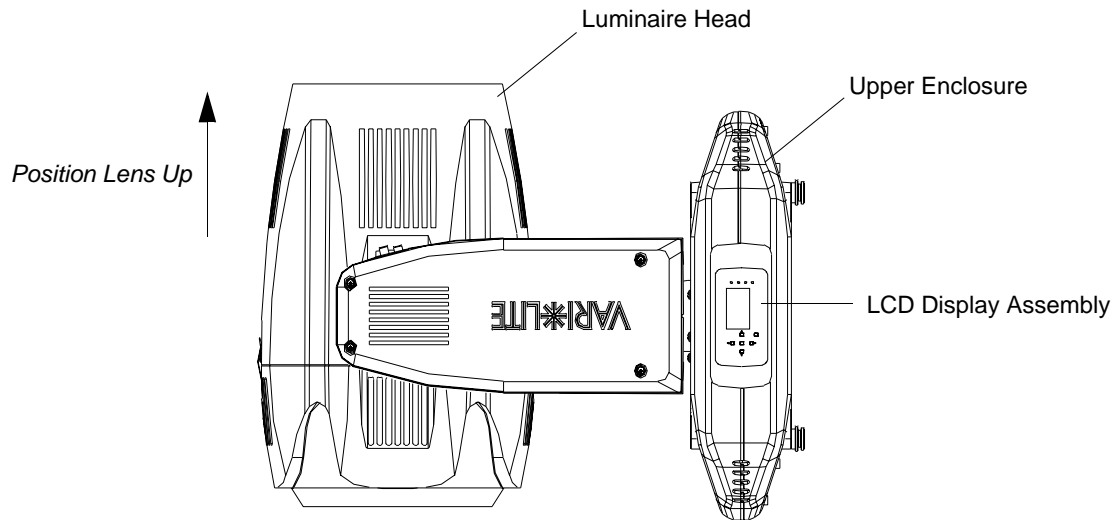

Figure 2-49: VLX Wash Luminaire
- Step 2. Carefully lay luminaire on flat, steady surface to have access to bottom cover of upper enclosure and LCD Display Assembly side is up. Be sure to rotate head as shown in Figure 2-49.